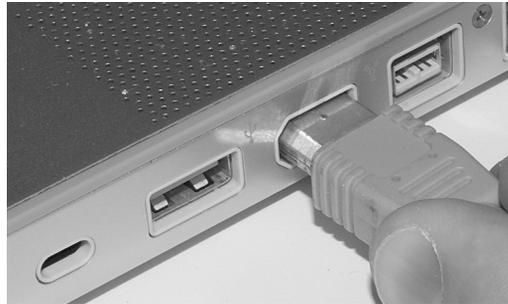

Figure 3-1: Connecting the Audio Express to the computer via FireWire.
**2** Plug one end of the Audio Express FireWire cable (included) into the FireWire socket on the computer as shown below in Figure 3-1.
**3** Plug the other end of the FireWire cable into the Audio Express I/O as shown below in Figure 3-1.
- 2 Plug the flat "type A" plug of the Audio Express USB cable (included) into a USB2-equipped socket on the computer as shown below in Figure 3-1.
- 3 Plug the squared "type B" plug of the USB cable into the Audio Express I/O as shown below in Figure 3-1.